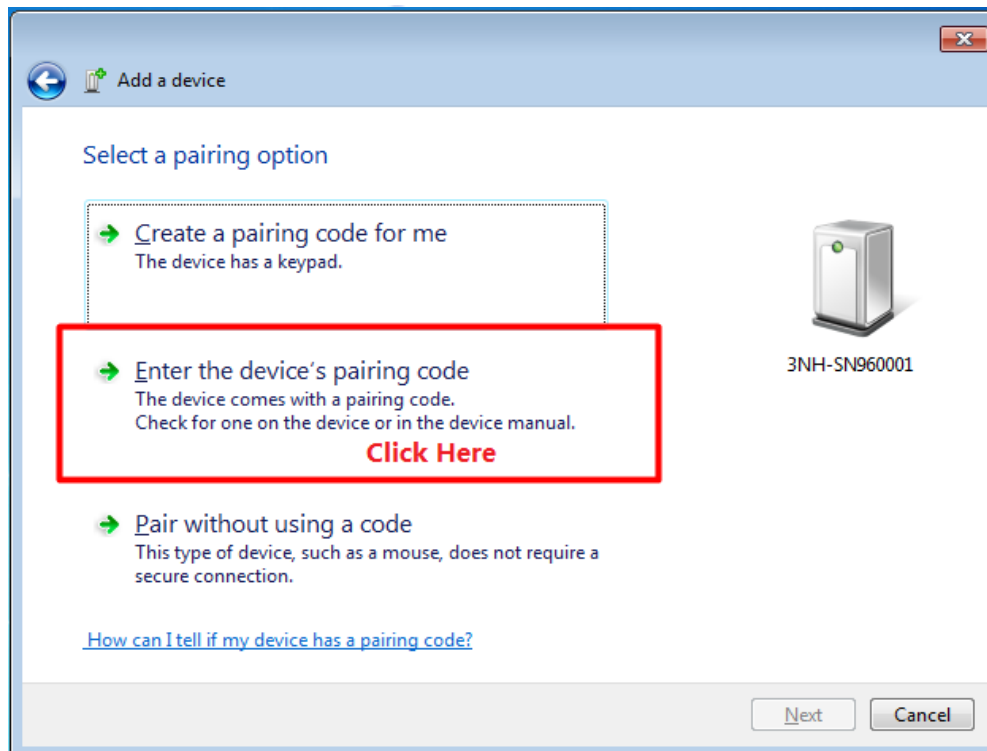
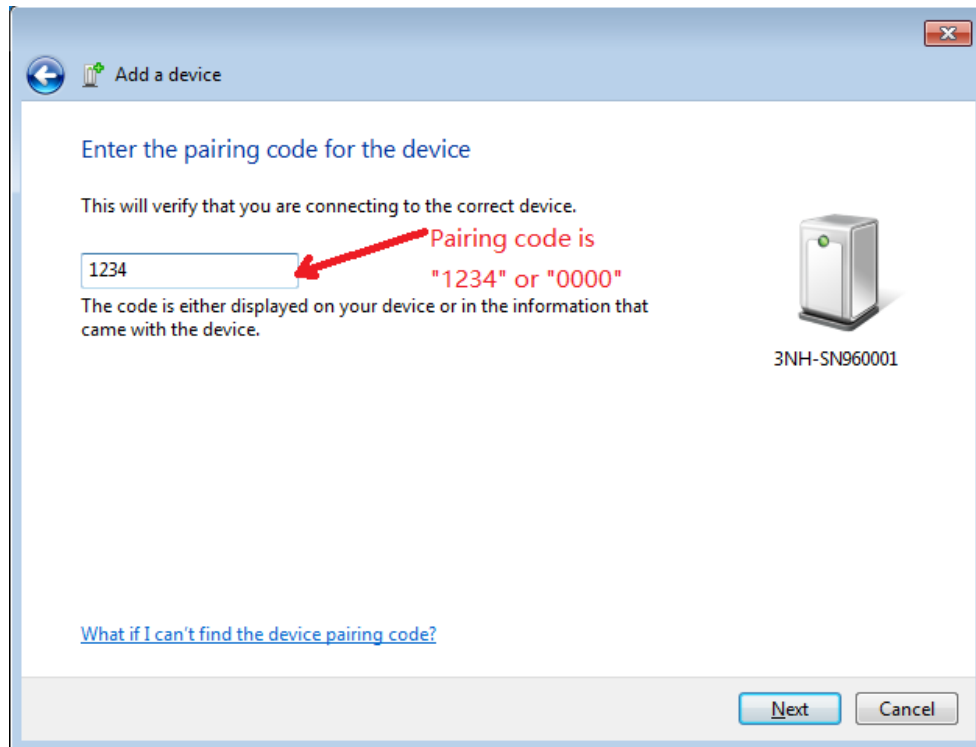

Figure 16 Pair Options Window
Figure 17 Enter the pairing code "1234" or "0000"
- ✓ In the "Pairing Options" window of Figure 16, select "Input Pairing Code for Device". Enter the pairing code in Figure 17, enter the pairing code. The pairing code is "1234" or "0000", and then click "Next" to complete the addition of the device.